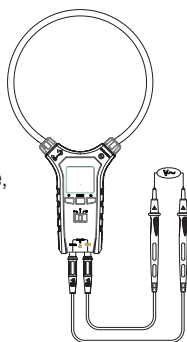

Figure 9
4. Connect the test leads to the voltage to be tested (Figure 9) and the meter will automatically select the range. The main display will show the AC voltage RMS and the auxiliary display will show the frequency value.